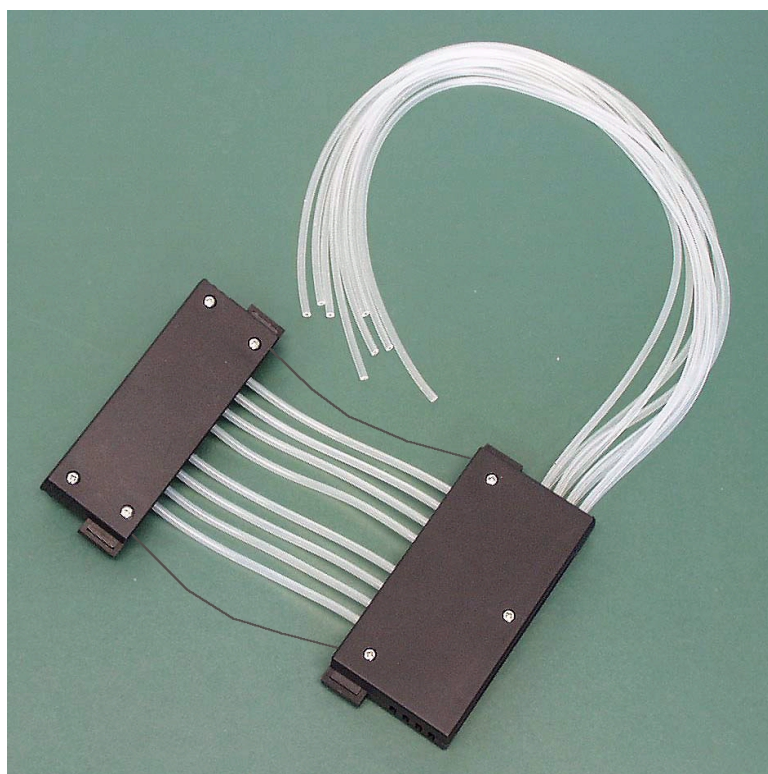

Fig. 7.31 Lower and upper part of the dispensing cassette fitted
16. Fasten the front cover retaining screw (Fig. 7.31). *Continued below.*